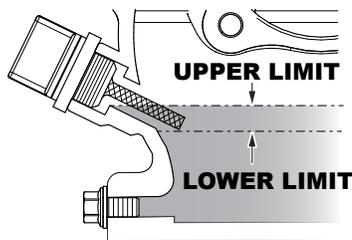

Figure 16. Engine Oil Dipstick (Oil)
4. If the oil level is low (Figure 16), fill to the edge of the oil filler hole with the recommended oil type (Table 5). Maximum oil capacity is 0.63 quarts (0.60 liters)